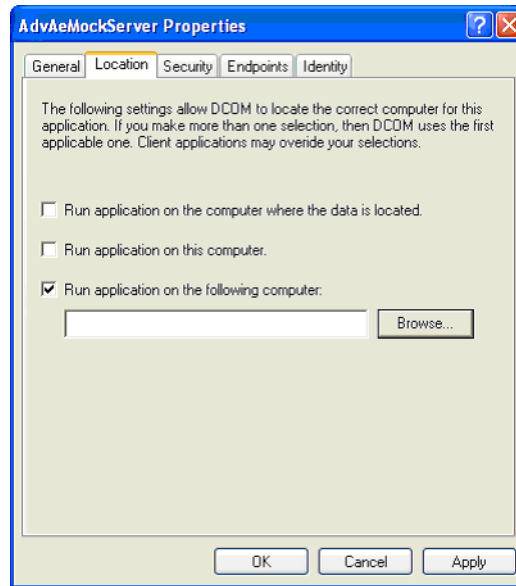

Figure 279. Properties
4. Select the Location tab and deselect the **Run application on this computer** check box. Select the **Run application on the following computer** check box and browse to the machine where the OPC AE server should be instantiated. See Figure 279.